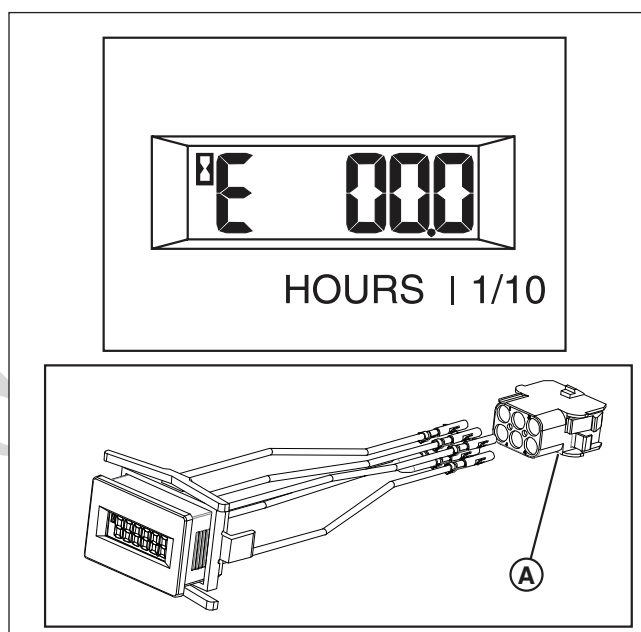

Figure 1. Hour Meter Identification
The dual function hour meter can be identified by looking at the face of the hour meter. A dual function hour meter will features both numbers and letters on in the display screen as shown in **Figure 1**. If the screen is damaged or blank you can identify a dual function hour meter by the number of wires coming out of the back of the hour meter. A dual function hour meter has a six (6) pin connector and a single function hour meter has two (2) individual wires.